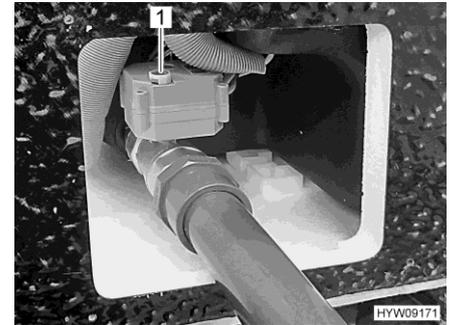

Fig. 106 Handwheel (waste water tap)
- To open the waste water tap, pull handwheel (Fig. 106,1) upwards and turn in an anticlockwise direction as far as it will go. The direction of rotation (O for opening, S for closing) is marked on the handwheel.
- To close the waste water tap, pull handwheel (Fig. 106,1) upwards and turn in a clockwise direction as far as it will go.